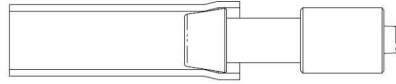

Figure 4-7 The pipe fitting connects with Luer-lock
1. Connect the sterilized pipe fitting to the sterilized Luer-lock. As shown in Figure 4-7.